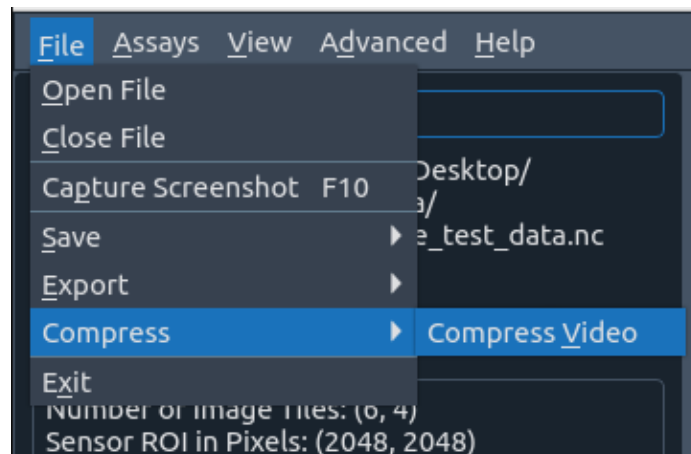

Fig 37: File menu.
- 1) Open the “Compress Video” panel within the “File” menu (Fig 37).